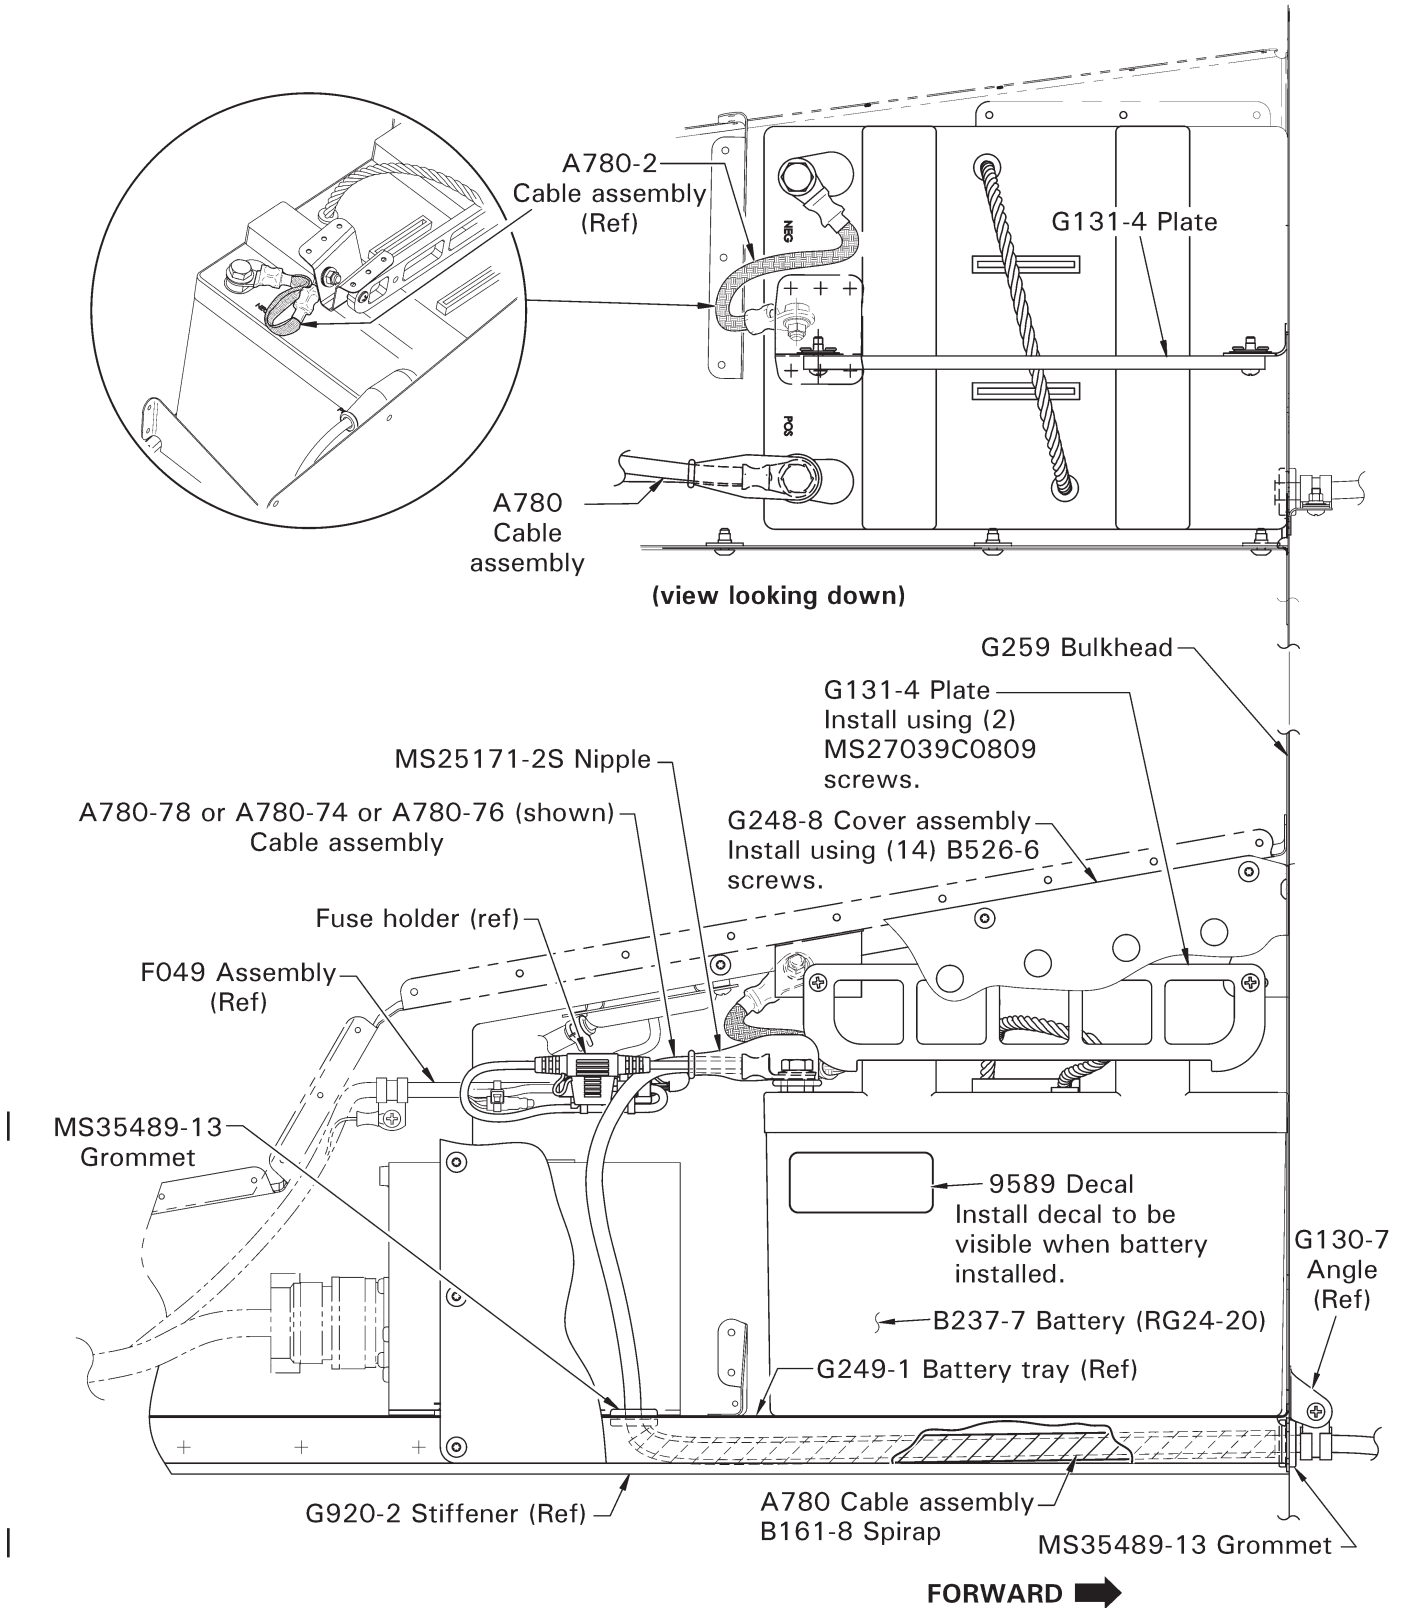

FIGURE 5 B237-7 battery revised installation shown
11. Refer to Figure 5 (B237-7 battery) or Figure 6 (B237-8 battery), as applicable. Feed relay-end of cable thru hole in G249-1 battery tray and forward thru G920 stiffener toward G259 bulkhead. Pull cable thru bulkhead hole from forward-side, using needle nose pliers or similar tool. Adjust protruding length according to measurement recorded in Step 6 NOTE.
12. Trim B161-8-12 spirap to 11.25 – 11.75 inches. Wrap spirap around A780 cable forward of G259 bulkhead. Slide spirap along cable thru bulkhead hole until full length of spirap is aft of bulkhead, inside stiffener. Slide (1) MS35489-13 grommet on cable and install on bulkhead.
15. Refer to Figure 5 or 6, as applicable. Install 9589 decal on battery as indicated, unless previously installed in location shown. Verify battery terminal surfaces are clean to ensure electrical conductivity.
16. Verify A780-2 ground cable is positioned as shown in Figure 5 or 6 where it is fastened to the airframe. If required, loosen installation hardware securing A780-2 cable to airframe and position cable assembly terminal aft as shown in Figure 5 or 6. Secure terminal hardware and standard torque per MM 20-30.
20. Refer to Figure 5 or 6, as applicable. Connect A780-74 or -76 cable assembly's fuse holder wiring to airframe harness as shown and secure using appropriately-sized ty-raps.
21. Install new G248-8 cover assembly (battery compartment) and secure using (14) B526-6 screws (see Figure 5).